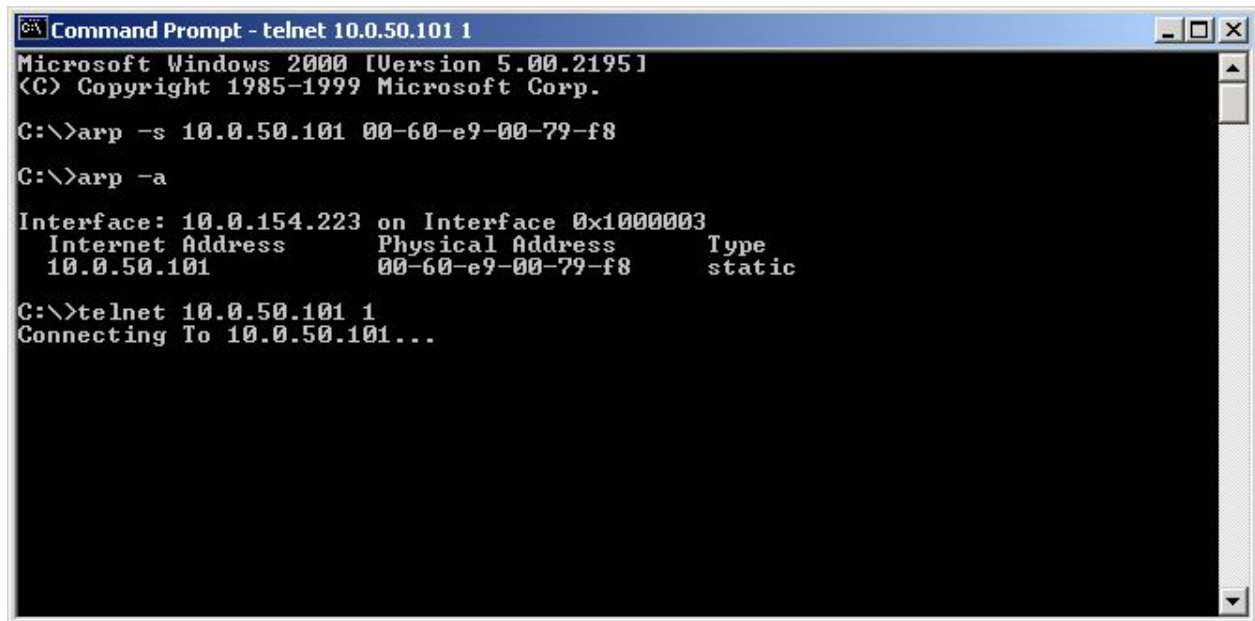

Figure 3.29. Assigning a new IP address by ARP command
**Step2:** Change to new IP via telnet port 1 (ref Figure 3.29)